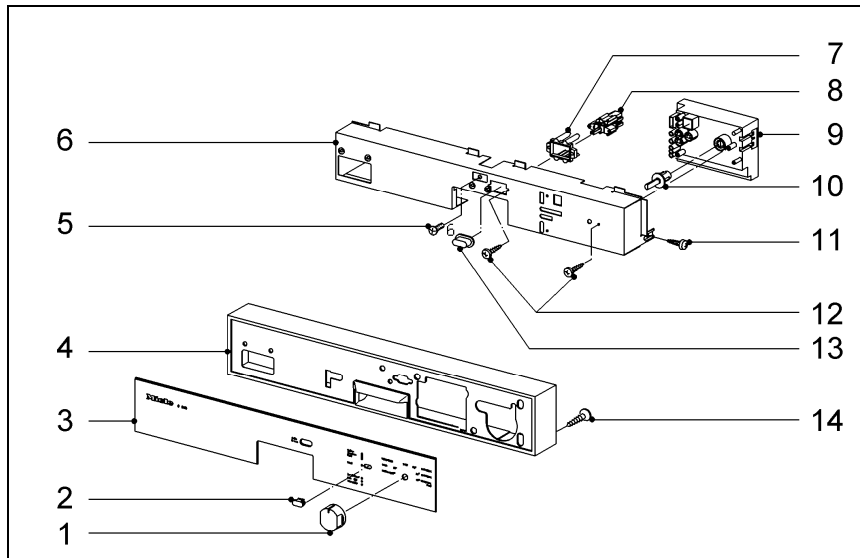

Figure 5-39: Control Panel (Novotronic and Touchtronic)
On Novotronic dishwashers, the program knob (Figure 5-39, Item 1) must be removed before the fascia (Figure 5-39, Item 4) and control panel (Figure 5-39, Item 3). Pull the knob outward to remove it from the appliance.
2. Hold the fascia (Figure 5-39, Item 4) and control panel (Figure 5-39, Item 3) while removing the interior screws (Figure 5-39, Item 14).